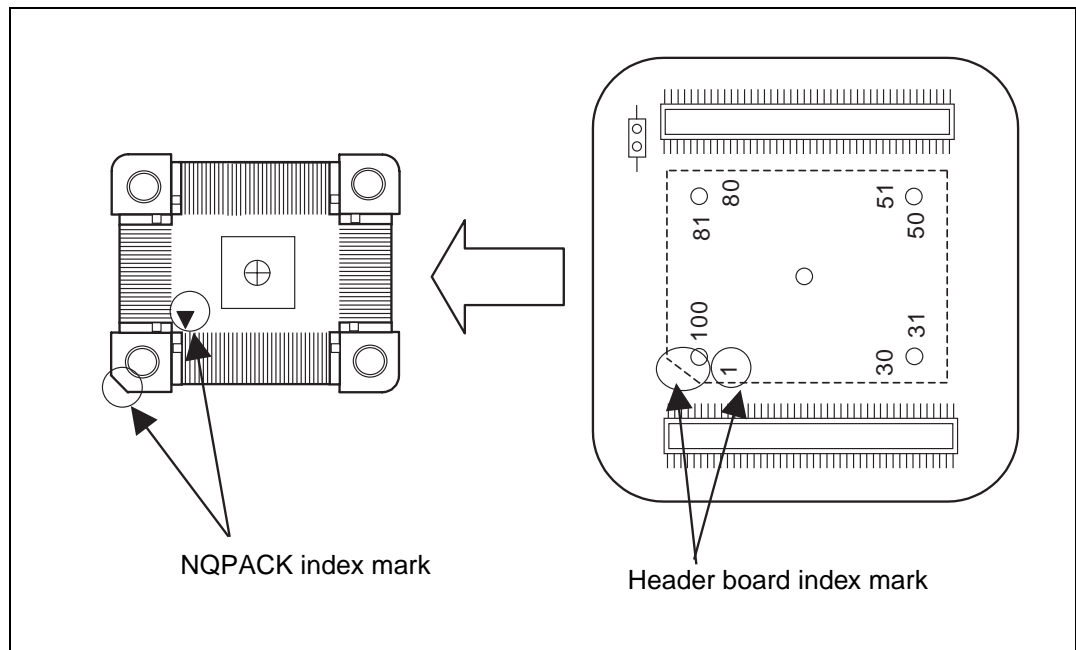

Figure 4 Index Position
1. To connect the header board to the user system, match pin 1 indicated by the index mark (▲) on the NQPACK mounted on the user system with pin 1 indicated by the index mark (angle cut linearly at one place only in silk screen) on the header board and then insert it (See Figure 4) .